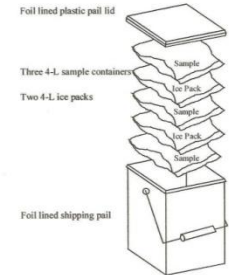

Fig 02.01-03 Preparation for shipment.
12.5.2 Line the shipment pail with aluminum foil or other reflective material to minimize sample heat-gain. Place the sample bags containing the compost sample into the plastic pail and interleave with ice packs for shipping (refer to Fig 02.01-03).